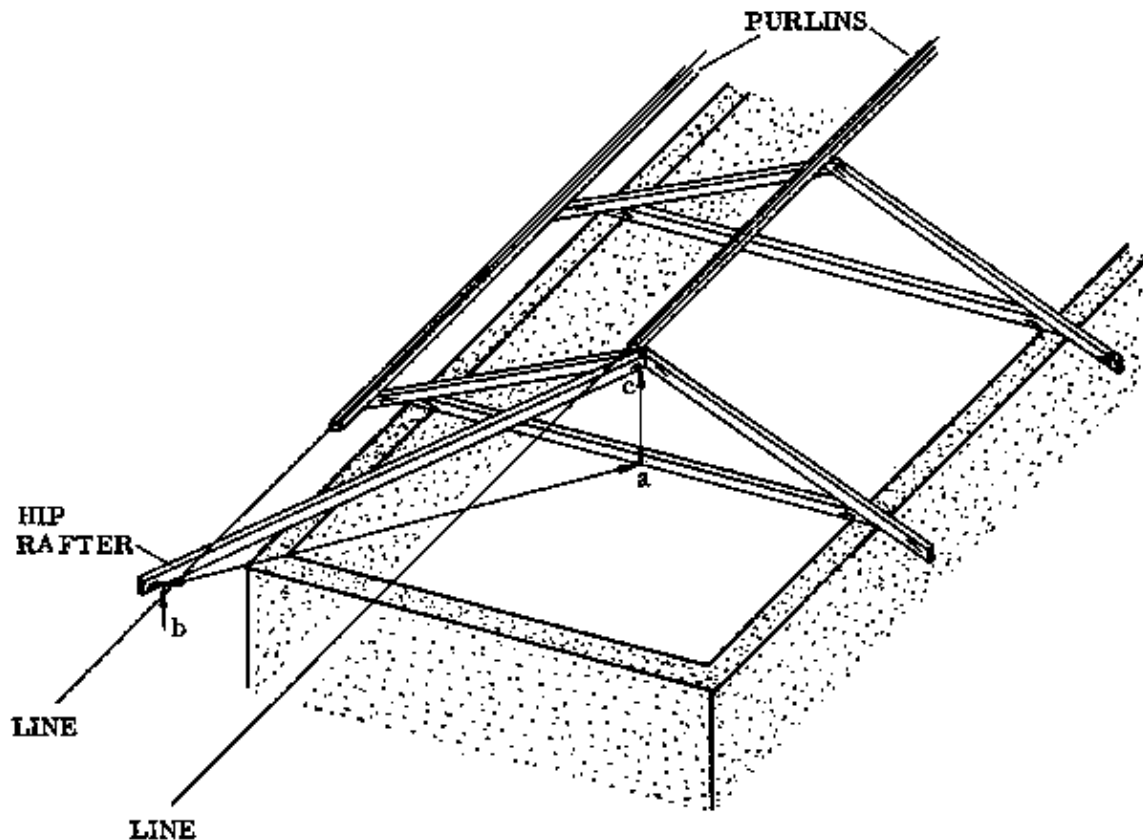
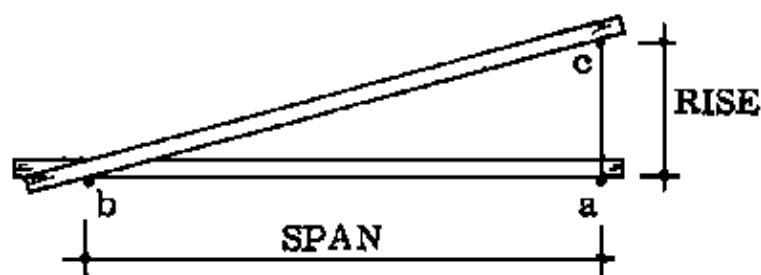

Fig. 2
Fig. 3
- a. Lay two purlins flatwise near the eave and ridge, across the last 3 full trusses of the roof. Make sure that they are aligned parallel to the wall, and nail them temporarily (Fig. 2).
b. Fix a line along the top surface of each purlin. The lines should extend past the ends of the purlins to the end wall of the building, where they can be held taut by a temporarily fixed pole. The lines must be taut and parallel to the side wall. Each line should touch the whole length of the top surface of the purlin (Fig. 2)
d. Now another man can measure the length of the hip truss tie beam, which will be the horizontal distance from the centre of the full truss tie beam (Fig. 2, point a) to the soffit of the hip rafter outside the wall (point b). This distance is the span of the tie beam for the hip truss (see Fig. 3).